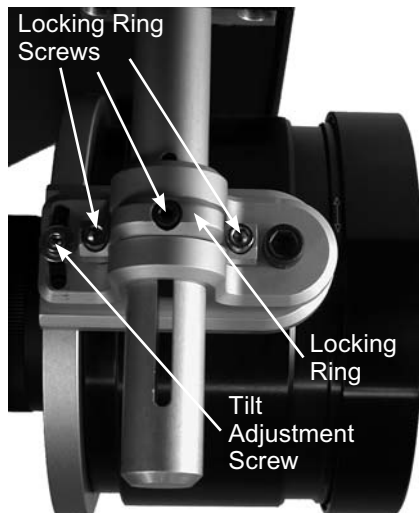

Figure 28
5. Using the appropriate tools loosen the three screws on the Lens Holder Locking Ring while at the same time supporting the Lens on the bottom. Refer to figure 28.